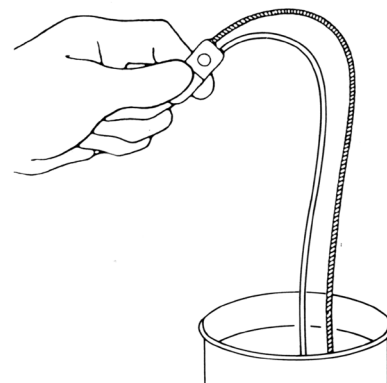

Figure 4-2a. Place Ends of Both Tubes Into Filling Solution
1. Place end of each tubing in a basin with the appropriate filling solution. (**Figure 4-2a**)